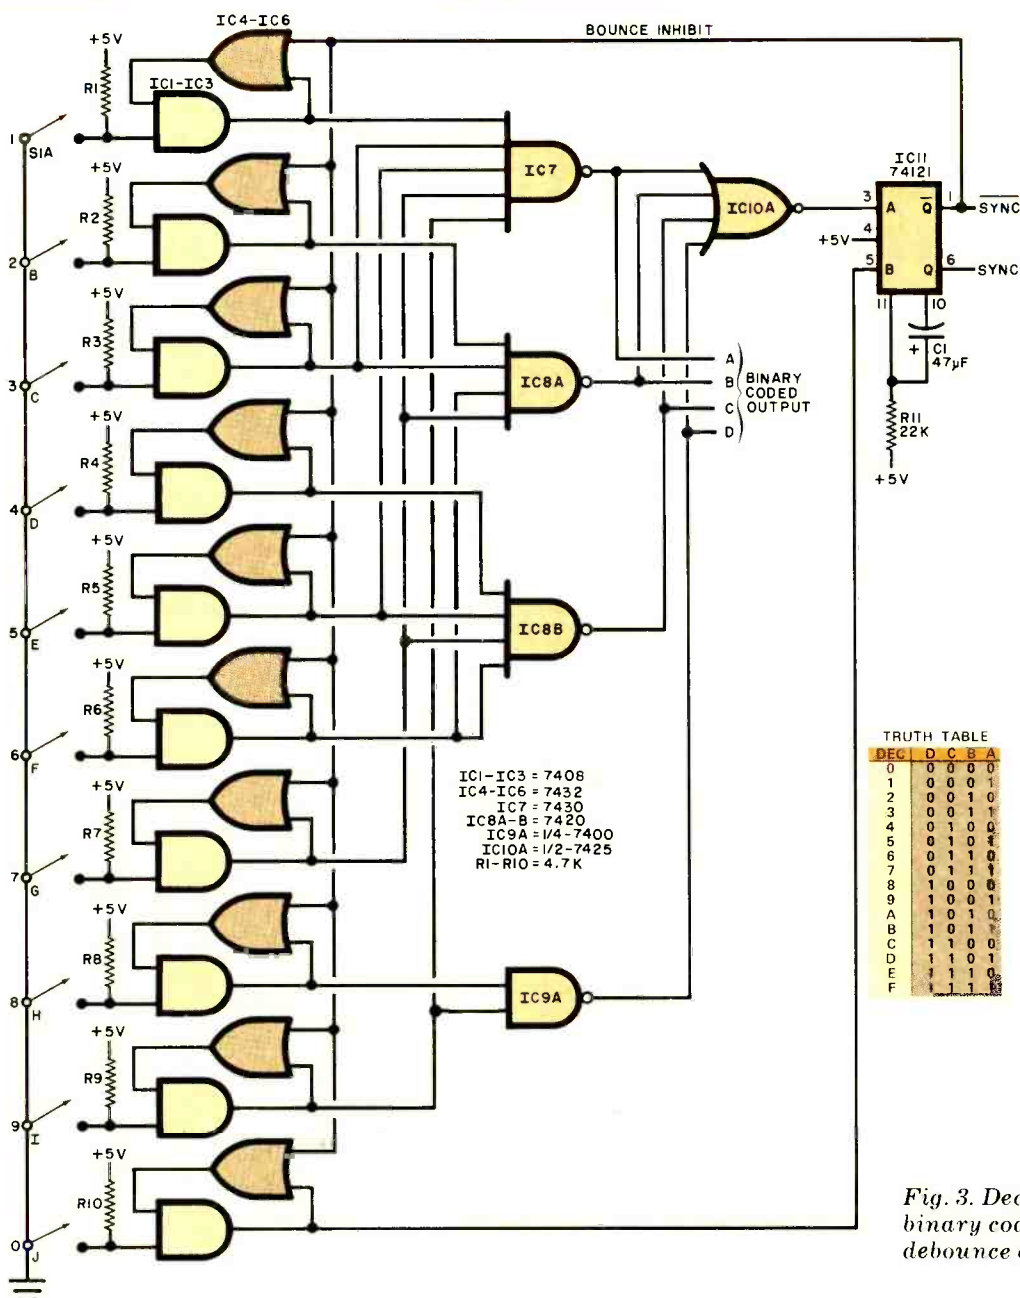

Fig. 3. Decimal keyboard binary coding and switch debounce circuitry.
The circuit shown in Fig. 3 illustrates the use of the debounce circuit with a BCD coding scheme. A function truth table is also shown. You may be surprised to see a hexadecimal table for a 10-key array. If you wish to obtain a hex A (10),
Referring back to Fig. 3, when all keyswitches are open, their associated AND gate (IC1 through IC3) inputs are high. Hence, the outputs of the four encoding NAND gates (IC7 through IC9) are low. Closing any keyswitch except 0 forces at least one of the NAND gate inputs high.
The bounce-inhibit circuit uses a 4-input NOR gate (IC10A) to trigger bounce-inhibit monostable multivibrator IC11. When any of the four NOR gate inputs go high (any key closed), the output of the NOR gate goes low and triggers the multivibrator. The multivibrator, in turn, sends a low signal to the OR gate associated with each key. This implements the debounce function. For the RC values given in Fig. 3, the debounce period is about 700 ms. For the 74121 monostable multivibrator, the timing equation is  $T = 0.69RC$ , with R kept at a value of less than 40,000 ohms.
The circuit remains in the debounce condition and ignores any switch bounce until the monostable multivibrator times out. When this occurs, the circuit resets back to where another key can be operated. Note in Fig. 3 that the multivibrator also produces a "sync" signal in exact time step with the input pulse. This is for use with an external counting or other enabling circuit.